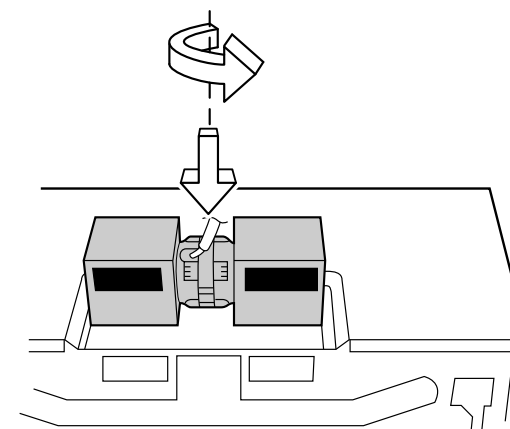

Figure 10
3. Rotate the Hood Fan Unit and turn end-over-end so that the fan blade openings are facing the back of the oven. Replace Hood Fan Unit into the oven. Be careful not to pinch the lead wire between the inner bracket and the Hood Fan Unit. See Figure 10.